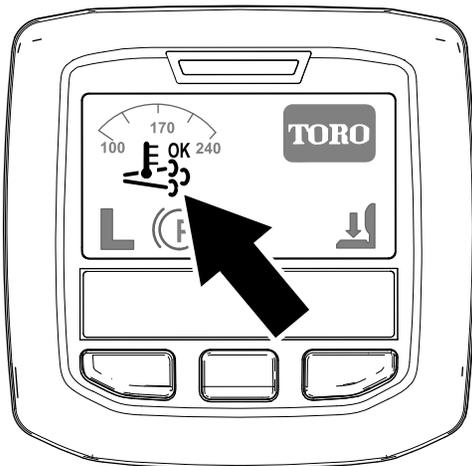

Figure 36
- The assist/reset-regeneration icon displays in the InfoCenter (Figure 36).